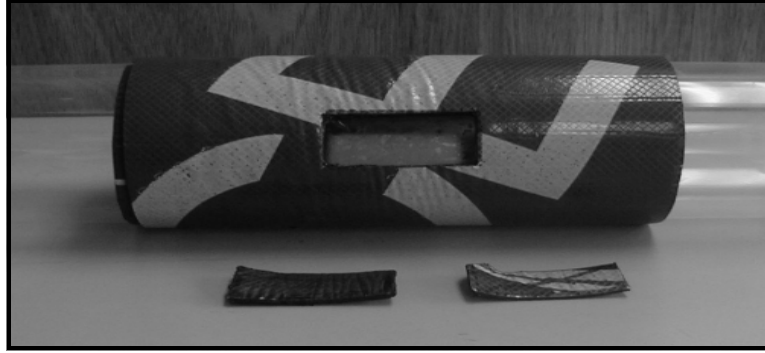

Figure 34: DMP-1 Material with Transducer Footprint Cut Out
8. Remove the fixture and transducers. Then use a utility knife to cut out the area under the transducer footprint, and peel the cut material off the pipe, as shown in Figure 34 below.